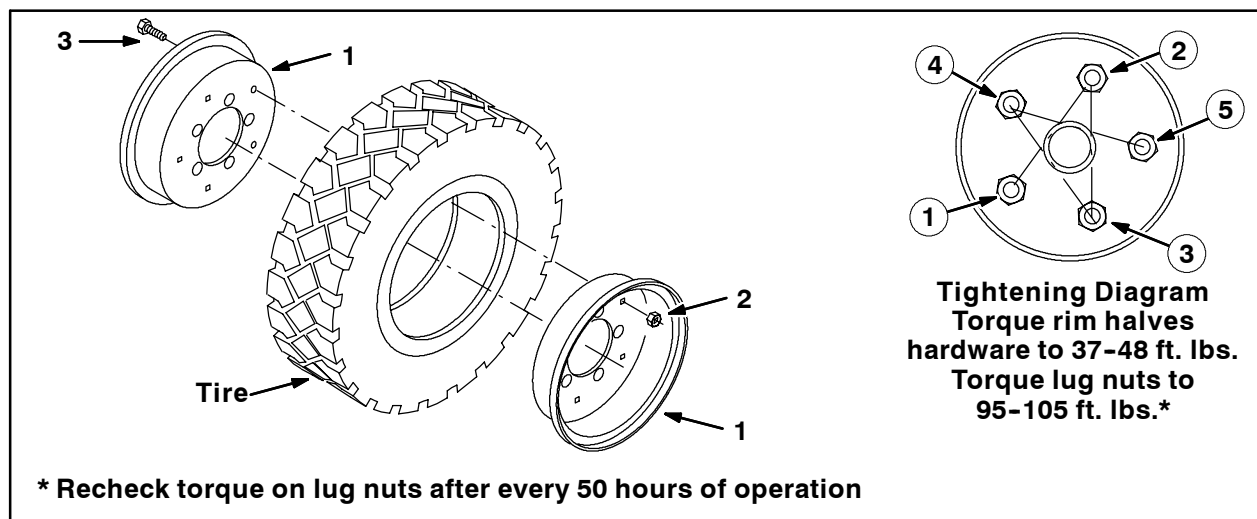

FIG. 2
3. Position the tire between the inner wheel shell and outer wheel shell of the wheel rim assembly (1), press the rim halves together, and use five hex nuts (2) and hex screws (3) to secure the inner wheel shell to the outer wheel shell. Torque to 37-48 ft. lbs. Tighten hardware twice as shown in the Tightening Diagram. Refer to Fig. 2.
4. Use the lug nuts to reinstall the rear tire onto the machine. Tighten lug nuts as shown in the Tightening Diagram in Fig. 2. Torque lug nuts to 95-105 ft. lbs. Recheck torque after every 50 hours of operation.